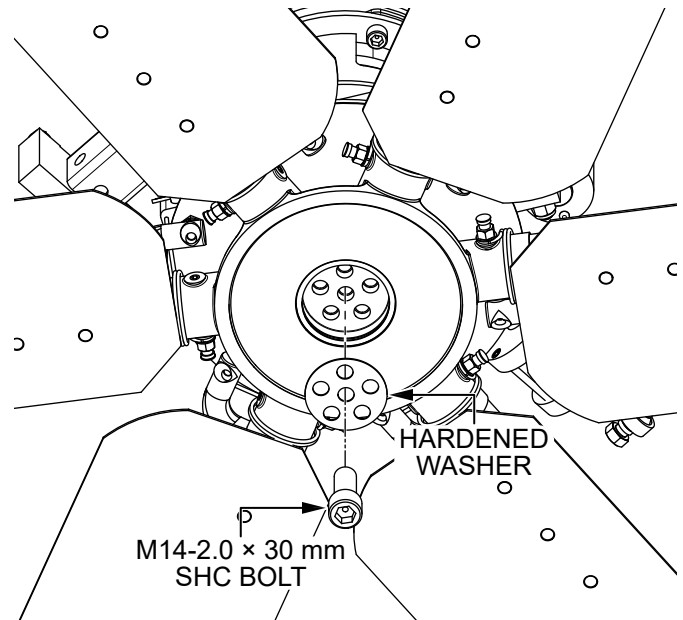

Figure 60. Install New Center Bolt And Washer
7. Install the new **M14-2.0 × 30 mm SHC bolt** in the *center position* along with a new **hardened washer** as shown in Figure 60. Torque the center bolt to 40 lbf-ft (54.2 N·m).